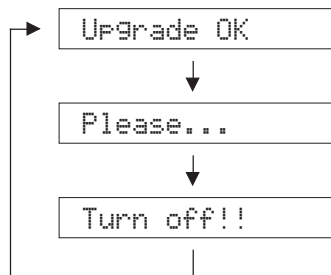

Fig. 3
- Press the "PLAY" key of the DVD/CD player. Then writing of the firmware is started. (Fig. 3)
- When writing of the firmware is completed, "Upgrade OK", "Please..." and "Turn off!!" are displayed repeatedly. (Fig. 3)
- DVD/CDプレーヤーの"PLAY"キーを押します。ファームウェアの書き込みが開始されます。(Fig. 3)
- ファームウェアの書き込み完了後、"Upgrade OK"、"Please..."、"Turn off!!"が繰り返し表示されます。(Fig. 3)